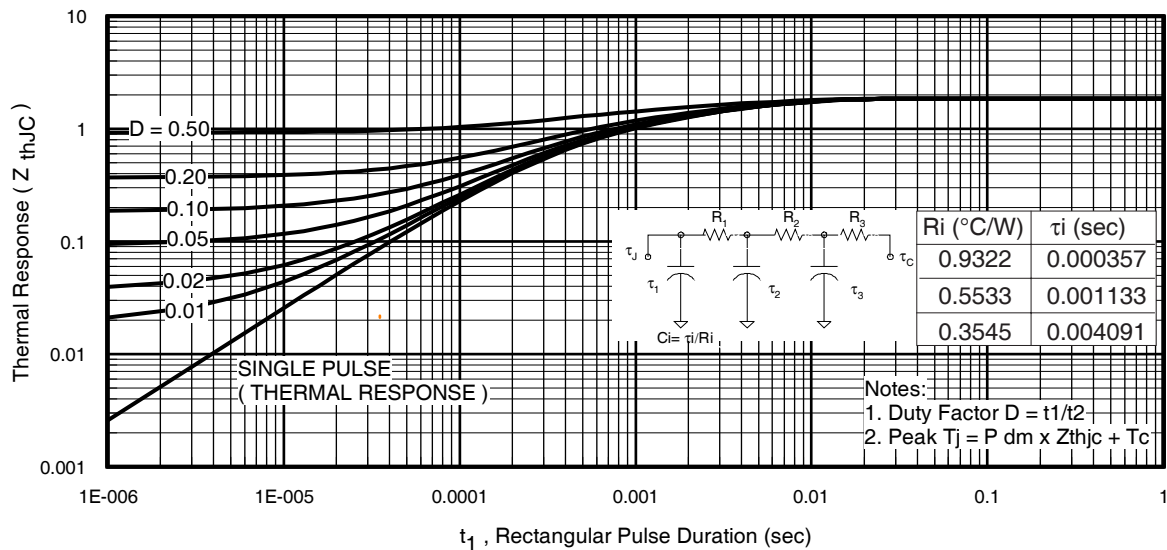

Fig 11. Maximum Effective Transient Thermal Impedance, Junction-to-Case
- ① Repetitive rating; pulse width limited by max. junction temperature. (See fig. 11).
- ② Limited by T_{Jmax} ; starting $T_J = 25^\circ\text{C}$, $L = 0.13\text{mH}$, $R_G = 25\Omega$, $I_{AS} = 31A$, $V_{GS} = 10V$. Part not recommended for use above this value.
- ③ $I_{SD} \leq 31A$, $di/dt \leq 1070A/\mu s$, $V_{DD} \leq V_{(BR)DSS}$, $T_J \leq 175^\circ\text{C}$.
- ④ Pulse width $\leq 1.0\text{ms}$; duty cycle $\leq 2\%$.
- ⑤ $C_{oss \text{ eff.}}$ is a fixed capacitance that gives the same charging time as C_{oss} while V_{DS} is rising from 0 to 80% V_{DSS} .
$Z_{thJC}(D, t_{av})$ = Transient thermal resistance, see figure 11)